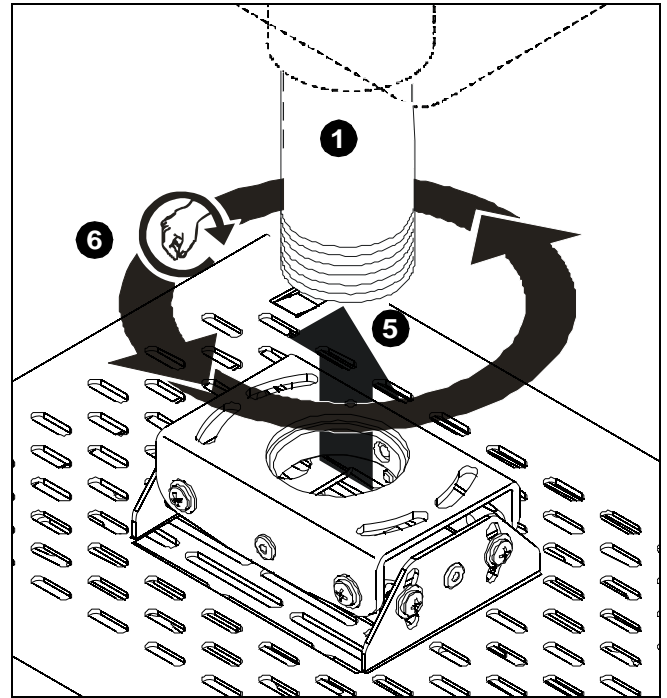

Figure 3
5. Align MSP-CCS1 outer sleeve with end of NTP pipe. (See Figure 3)
6. Thread MSP-CCS1 sleeve up onto pipe by turning counterclockwise until hand tight. (See Figure 3)